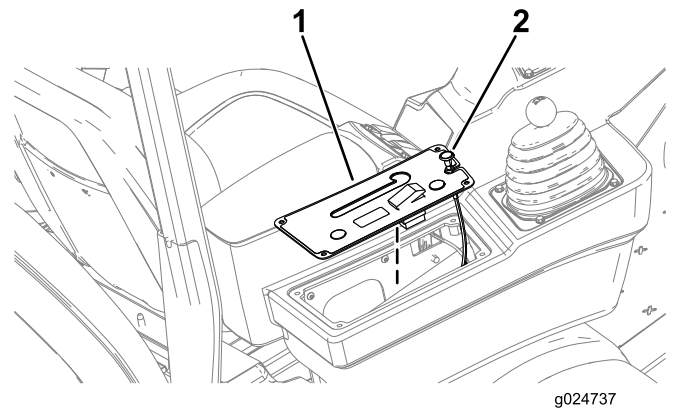

Figure 46
3. Lift the control-panel cover and the choke control (Figure 46).